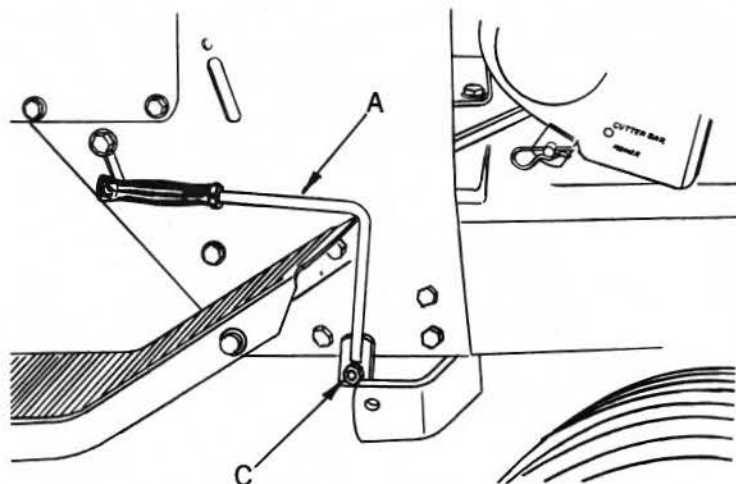

FIG. 9
2. Position clutch lever lock (B), so that tab on clutch lever lock makes contact with bottom edge of hanger weldment (D). Secure with nut (C), removed in step 1. The clutch lever lock (B), will hold the safety mechanism in the "OUT" position.
3. Save lever (A, Fig. 9), for use with mower.